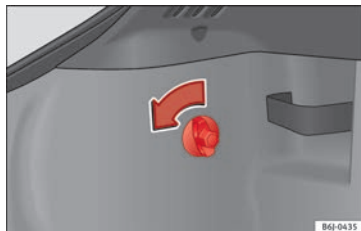

Fig. 97 Access to tail lights.
- Turn the bolt in the direction of the arrow, by hand or with a screwdriver » **Fig. 97**.
- Remove the connector from housing (A) » Fig. 97.